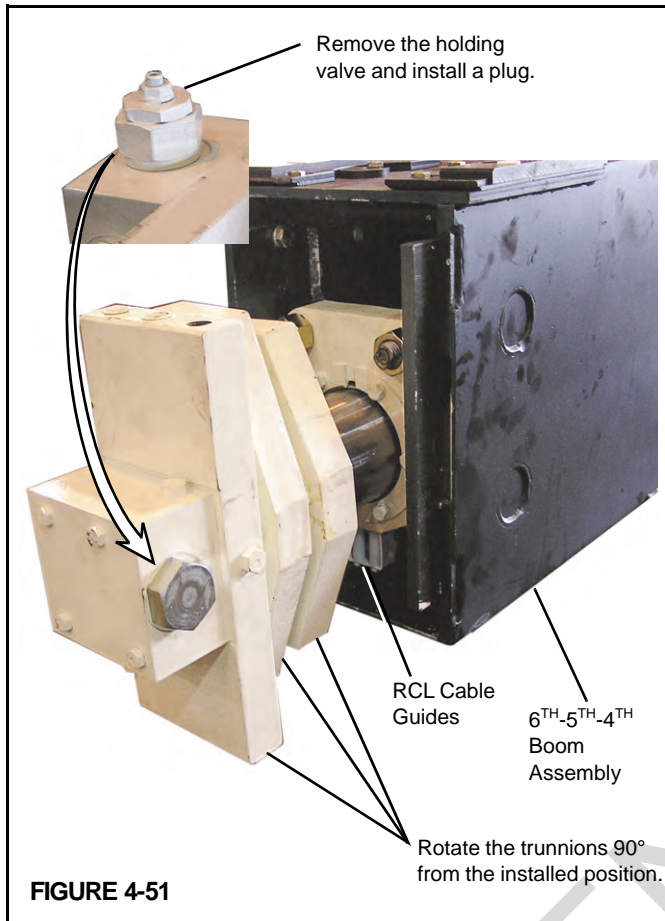

FIGURE 4-51
11. Turn the remaining trunnions 90° so that the trunnions can be inserted through the remaining boom sections (Figure 4-51).